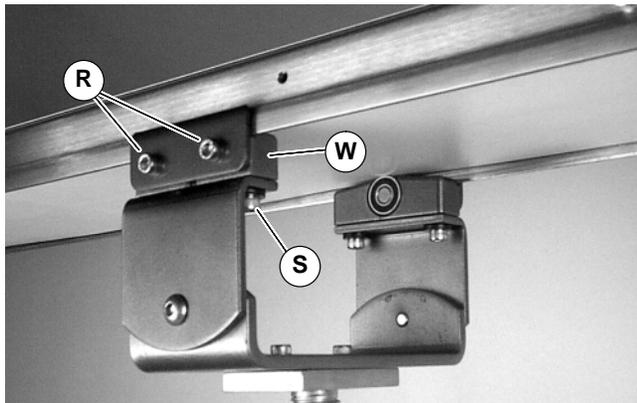

Figure 15
- Install assemblies (W of Figure 15) on bottom of conveyor. Tighten bracket screws (R) to 80 in-lb (9 Nm).